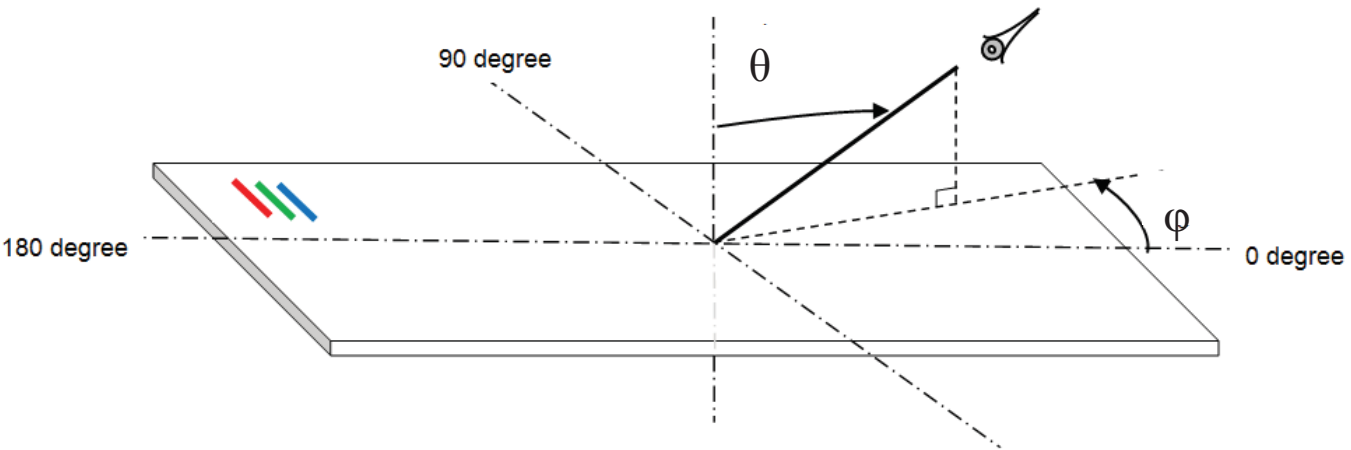

Figure 8. Definition of Axis
1. The White luminance uniformity on LCD surface is then expressed as : $\Delta Y = \text{Minimum Luminance of 13 points} / \text{Maximum Luminance of 13 points}$. (see Figure 8).
4. Center Luminance of white is defined as luminance values of 5 point average(4,5,7,9,10) across the LCD surface. Luminance shall be measured with all pixels in the view field set first to white. This measurement shall be taken at the locations shown in Figure 8 for a total of the measurements per display.
The White luminance uniformity on LCD surface is then expressed as : $\Delta Y13$ = Minimum Luminance of 13 points /Maximum Luminance of 13 points (see Figure 8).